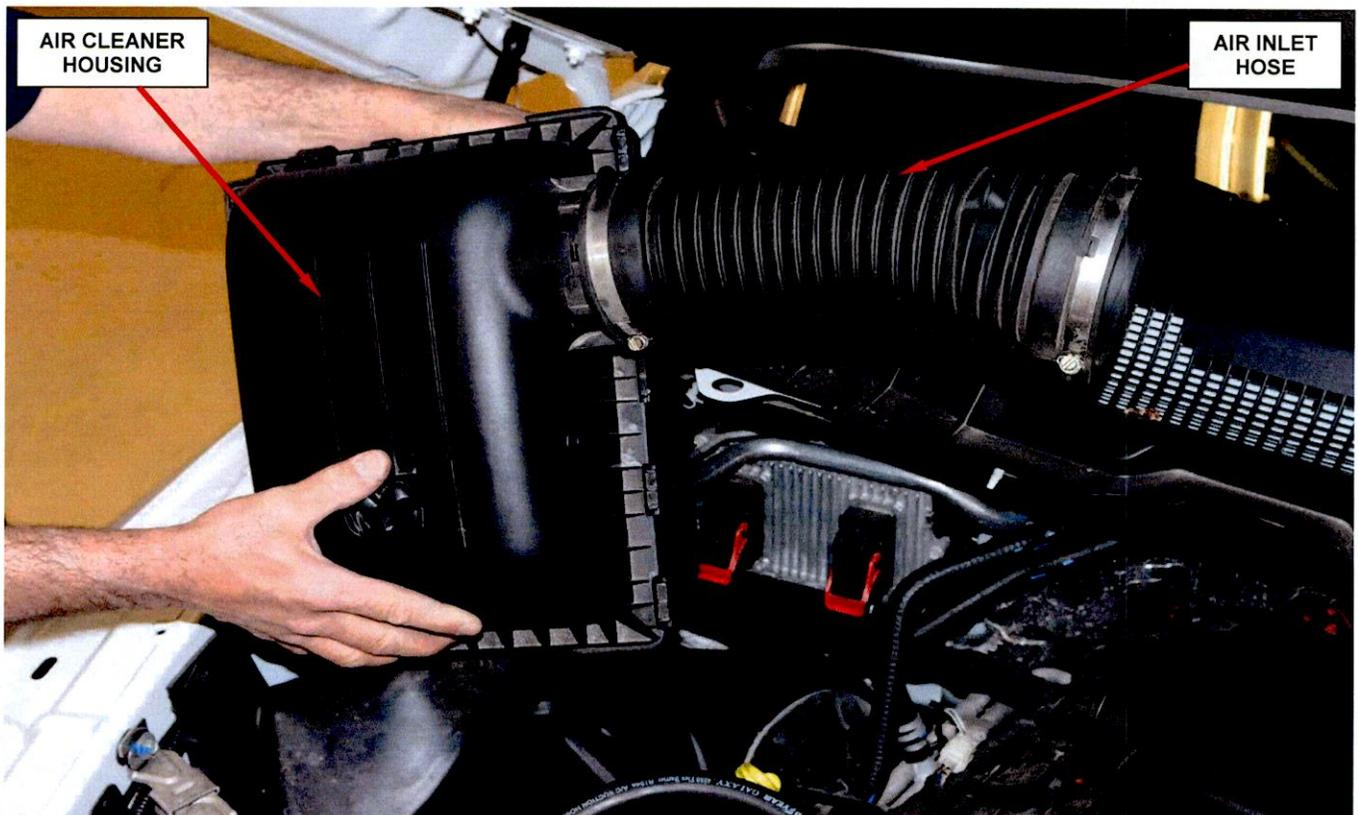

Figure 6 – Air Cleaner Housing and Air Inlet Tube
- b. Remove and save the air cleaner housing and air inlet hose (Figure 6).
- i. Install the air cleaner housing and air inlet tube (Figure 6).